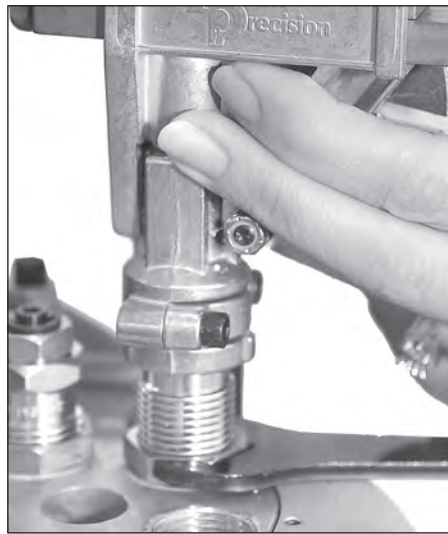

FIG 47
8. While holding the powder measure, snug the locking using a 1" wrench **FIG 47**. Now lower the platform.